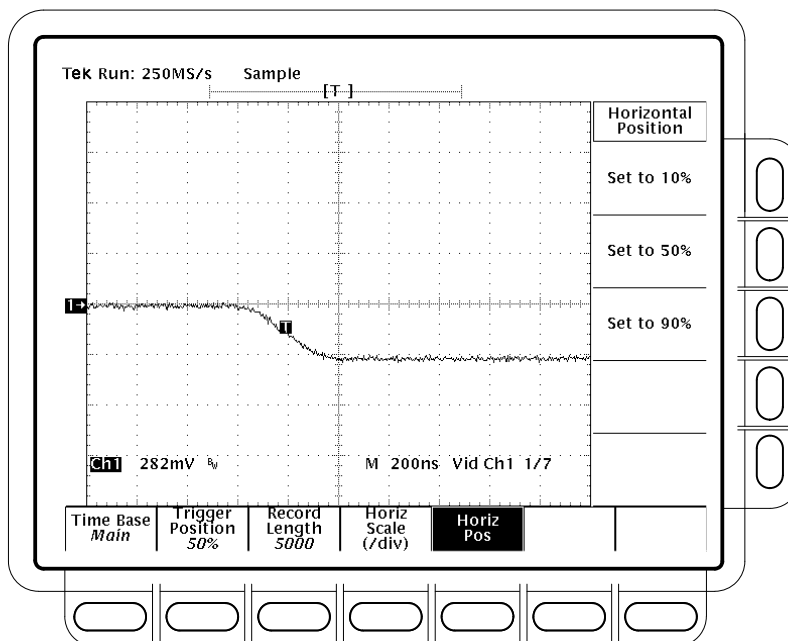

Figure 1-35: Line Count Accuracy Test Setup Waveform – TDS 684A Shown
- Use the **HORIZONTAL POSITION** knob to move the falling edge of the sync pulse to two divisions to the left of center screen. See Figure 1-35.